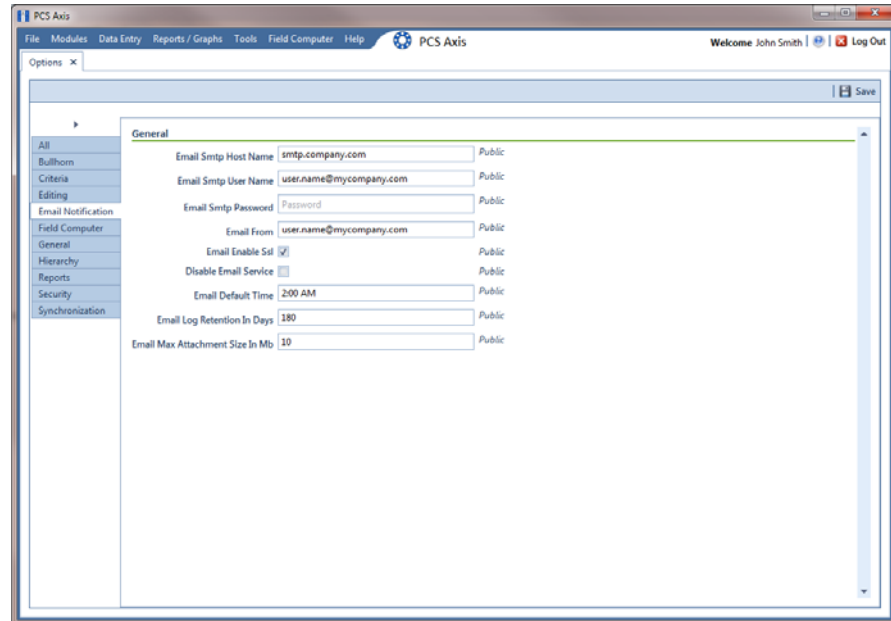

Figure 12-16. Options / Email Notification
- b** Click the **Email Notifications** tab to view property settings for *Email Notification* (Figure 12-16, page 513).